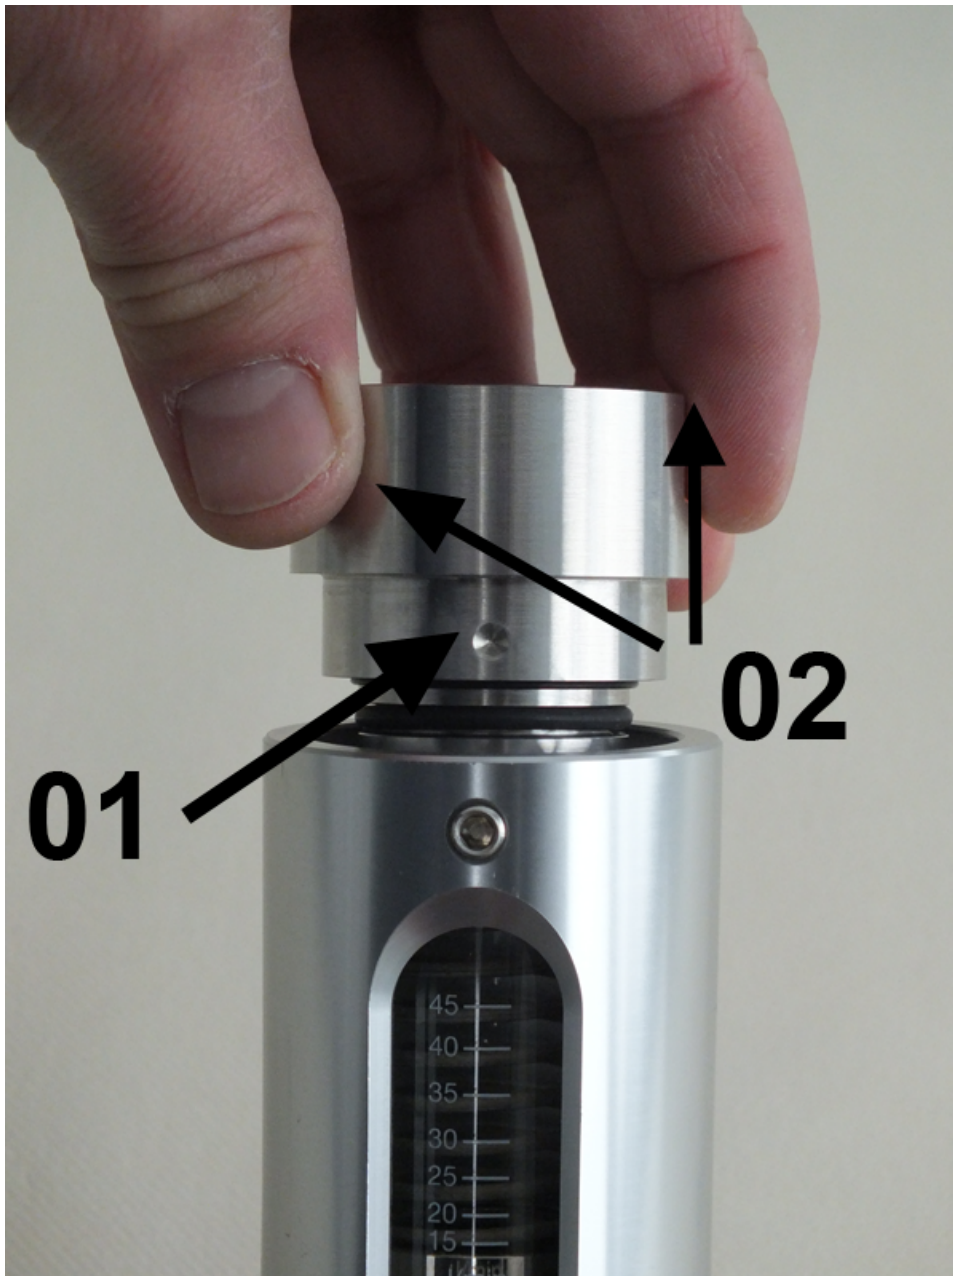

Fig. 56: Position process connection (outlet) in device housing
- 13.** ▶ Insert the process connection (outlet) (*Fig. 56/1*) into the device housing by applying light pressure and twisting slightly. When doing so, ensure that the spanner flats (*Fig. 56/2*) are at an angle of 90° to the sight window of the device housing.